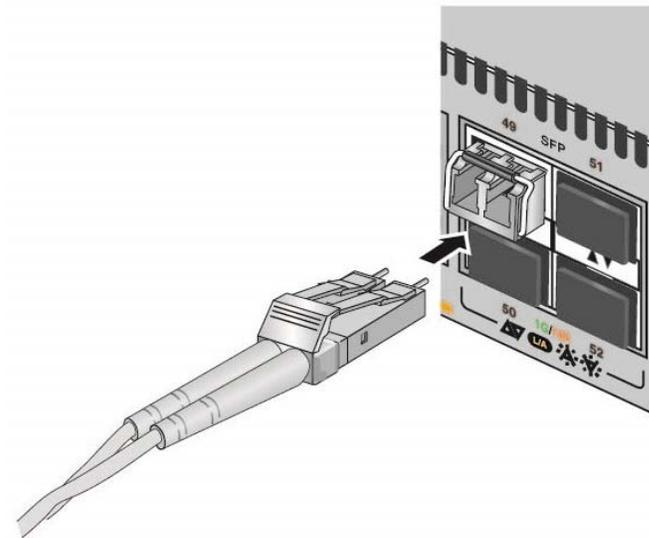

Figure 36. Connecting a Fiber Optic Cable to an SFP Transceiver
8. Connect the fiber optic cable to the transceiver, as shown in Figure 36 on page 77. The connector on the cable should fit snugly into the port, and the tab should lock the connector into place.